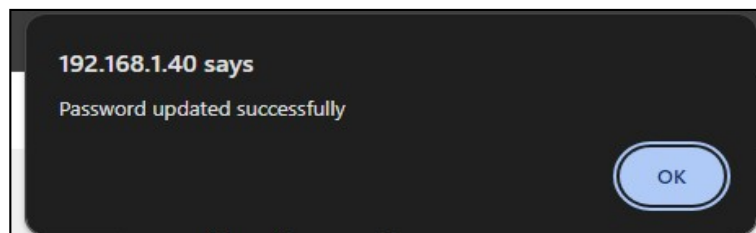

Figure 42: Password Updated Confirmation
4. **Confirmation:** After updating, a confirmation message will appear (refer to Fig 42) indicating that the password has been updated successfully. The user will be automatically redirected to the login page to log in using the new credentials. If any other message appears or if the user is not redirected to the login page, follow the instructions provided in that message.